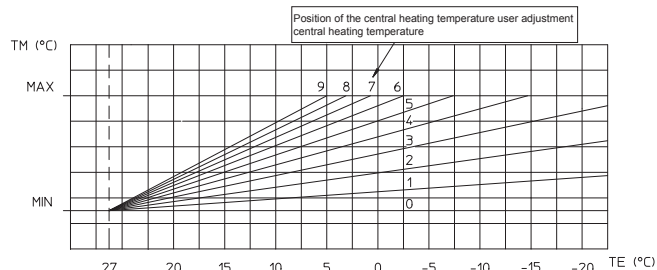

Fig. 1-8
The probe can be connected directly to the boiler electrical system and allows the max. system flow temperature to be automatically decreased when the external temperature increases, in order to adjust the heat supplied to the system according to the change in external temperature. The external probe always acts when connected independently from the presence or type of room thermostat used. The correlation between system flow temperature and external temperature is determined by the position of the selector switch on the boiler control panel according to the curves shown in the diagram (Fig. 1-8). The electric connection of the external probe must be made on clamps 38 and 39 on the boiler P.C.B. (Fig. 3-2).
• **Functioning with optional external probe (🌡).** In the case of a system with optional external probe, the boiler flow temperature for room central heating is managed by the external probe depending on the external temperature measured (Par. 1.6). The flow temperature can be modified by selecting the functioning curve via buttons (5 and 6), selecting a value from “0 to 9” (Fig. 1-8).